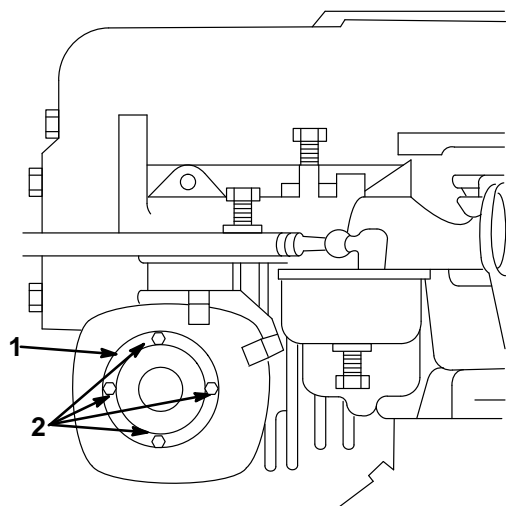

Figure 1
1. Remove the 4 screws from the muffler deflector and discard the deflector (Fig. 1).